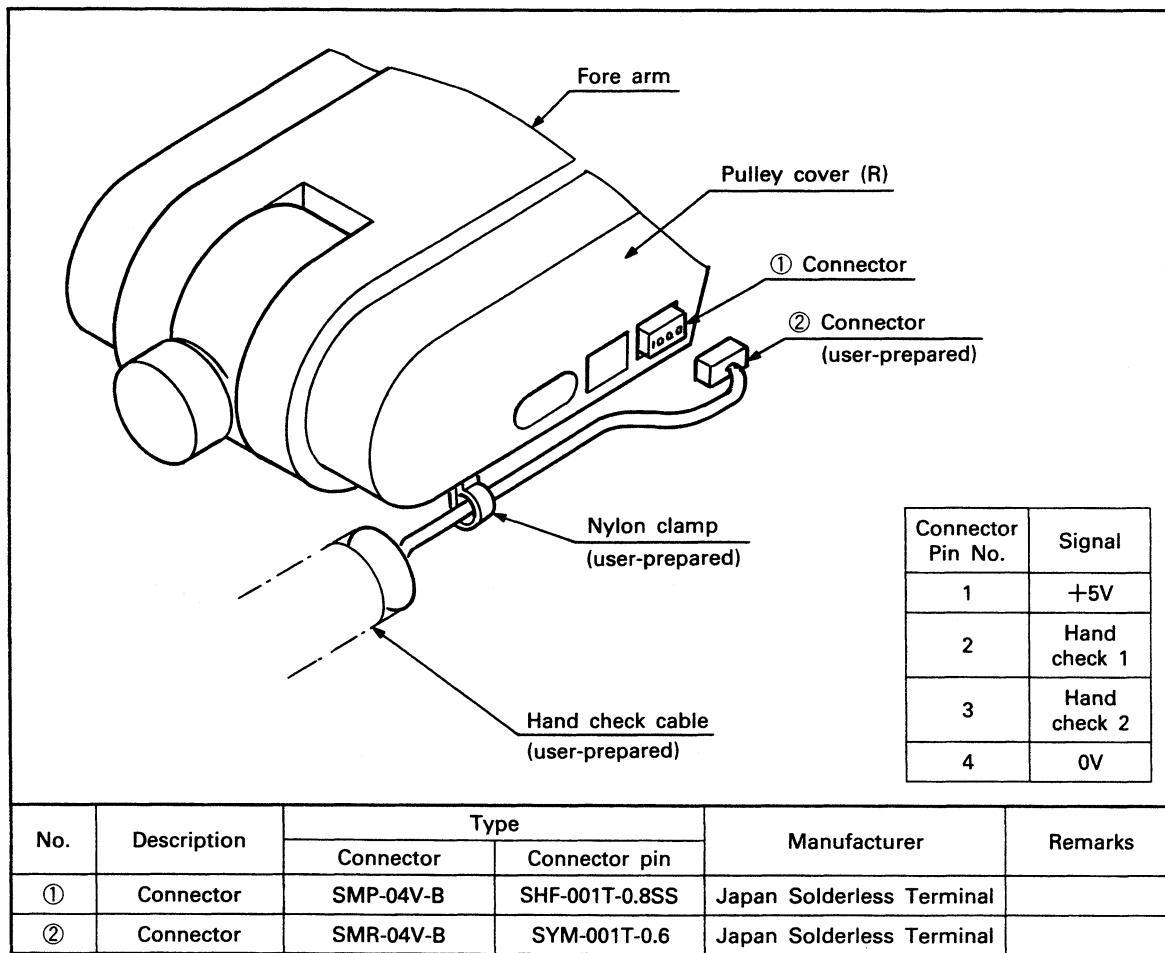

Fig. 5.4.1 Connection of Hand Check Signals
- (1) Fig. 5.4.1 shows the way of connecting the hand check signals.
- (2) Connect a hand check cable (user-prepared) to the connector ① in the pulley cover (R).
- (3) Secure the hand check cable to the fore arm with a nylon clamp (user-prepared) using the pulley cover (R) installation screw as shown in Fig. 5.4.1.
- (4) When the input instruction (ID, IN) is executed, hand check signals 1 and 2 correspond to bits 16 and 17, respectively.
- (2) Remove the cover installation screws ① and remove the base side cover (R) ② .
- (3) Pins S11 correspond to hand check signal 1 and S2 to hand check signal 2. (For hand check signals 1 and 2, see Fig. 5.4.1.)